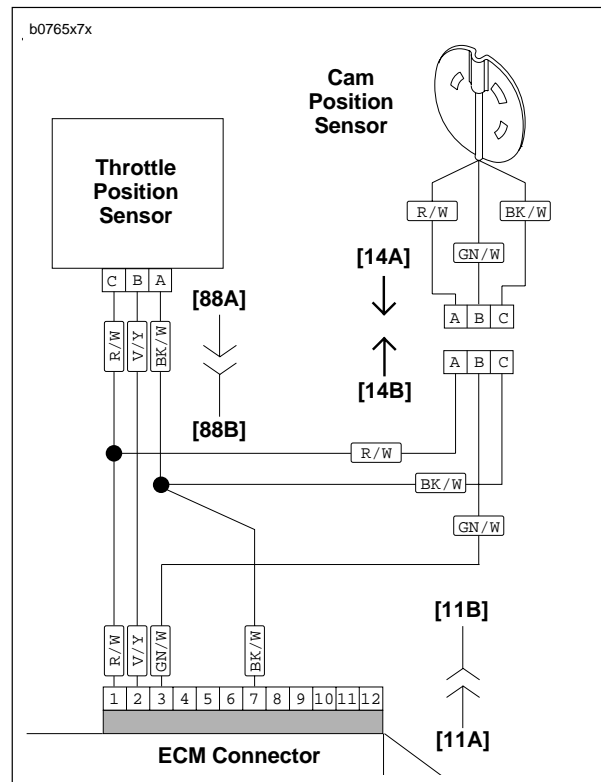

Figure 4-76. Connecting Sensor Wires
- Install trigger rotor (16).
- Apply LOCTITE 243 (blue) to threads of bolt (17).
- Position trigger rotor (16) onto end of camshaft aligning notch with camshaft slot.
- Install cam position sensor (18) and timer plate studs (4). Rotate cam position sensor to its previously marked position to obtain approximate ignition timing.
- See Figure 4-76. Install sensor wiring terminals into correct positions in plug end of connector [14]. R/W, GN/W and BK/W wires of plug end (from cam position sensor) must match same color wires in receptacle end of connector (from ignition module wiring harness). Install pin terminals. See B.2 DEUTSCH ELECTRICAL CONNECTORS.